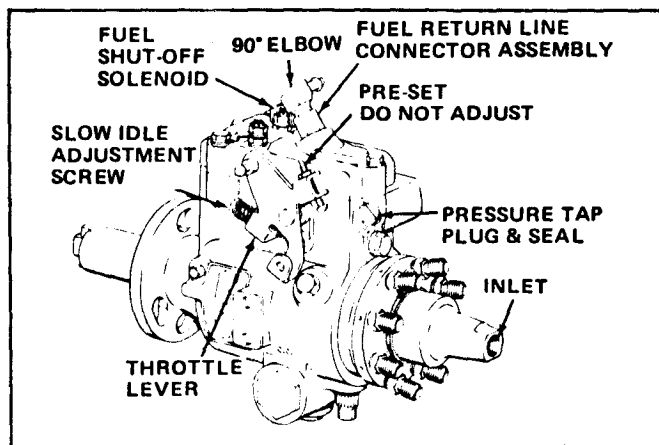

Figure 6C5-11 Injection Pump Slow Idle Screw, Roosa-Master Pump
12. Check the slow idle speed reading against the one given on the "Vehicle Emission Information Label". Reset if required (Figures 6C5-11 or 6C5-12).
13. Unplug the connector from the fast idle cold advance (engine temp.) switch and install a jumper between the connector terminals - Do not allow the jumper to touch ground. (Figure 6C5-13).
14. Check the fast idle solenoid speed against the one given on the "Vehicle Emission Information Label." Reset if required, see Figure 6C5-5, V8 and Figure 6C5-14, V6.